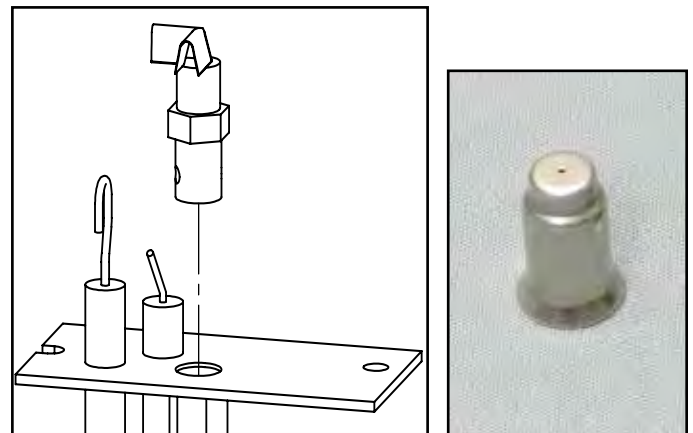

Figure 9. Pilot Conversion & Orifice
5. Convert the existing pilot orifice with the one provided in this kit (see Figure 9) using a **7/16" wrench**. Fully unscrew and remove the pilot head and replace the orifice insert, bell end down. Re-install and tighten the pilot, if the head does not reach proper orientation in the snug position then contact your Enviro dealer.